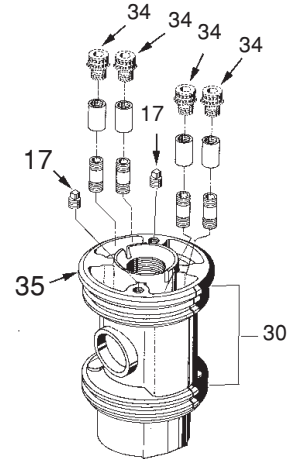

Figure 4-Flowing Well Spool with check valves include Key Nos. 15-29. (W/O Check Valves same as Fig. 3)
- E2 Spool with check valves for Flowing Well, Figure 4
- E0 Spool without check valves for Flowing Well, Figure 4